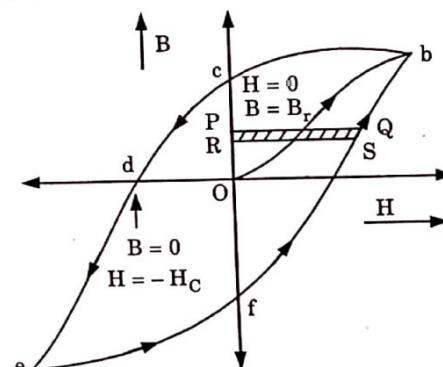

Fig. 3.2.1. Hysteresis loop.
- i. Plotting a graph between B and H for a ferromagnetic material is known as hysteresis curve or B - H curve as shown in Fig. 3.2.1.
- iv. **Residual magnetism :** It is defined as the magnetic flux density which still persists in magnetic material even when the magnetising force is completely removed. In Fig. 3.2.1 on reducing the value of H from the saturation region to zero there remains a flux density B_r which is residual magnetism.
- v. **Coercive force (field) :** It is defined as demagnetizing force which is necessary to neutralize completely the magnetism in an electromagnet when the value of magnetizing force becomes zero. In Fig. 3.2.1, H_c is required to reduce flux density to zero and is called coercive force.